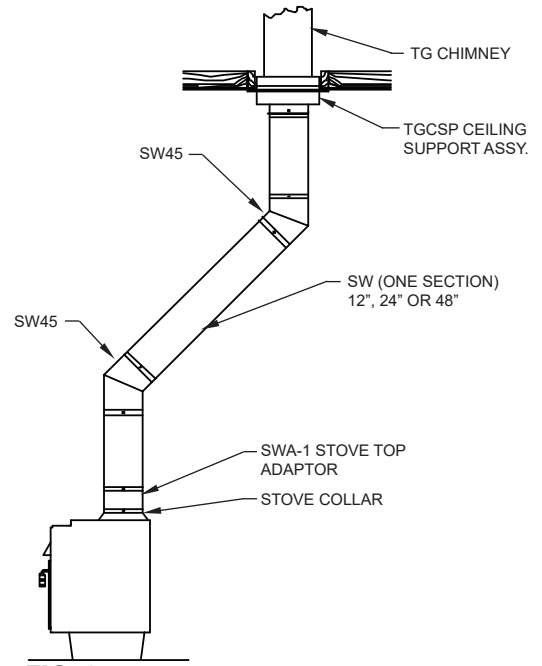

FIG. 3
5. If elbows are required, only one pipe section is recommended between elbows (See **FIG. 3**). The elbows are secured to the pipe section with sheet metal screws.